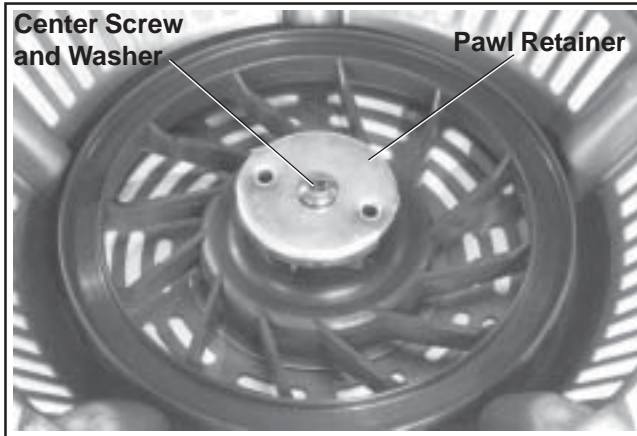

Figure 7-4. Center Screw, Washer and Pawl Retainer.
- 2. Remove the center screw, washer, and pawl retainer. See Figure 7-4.